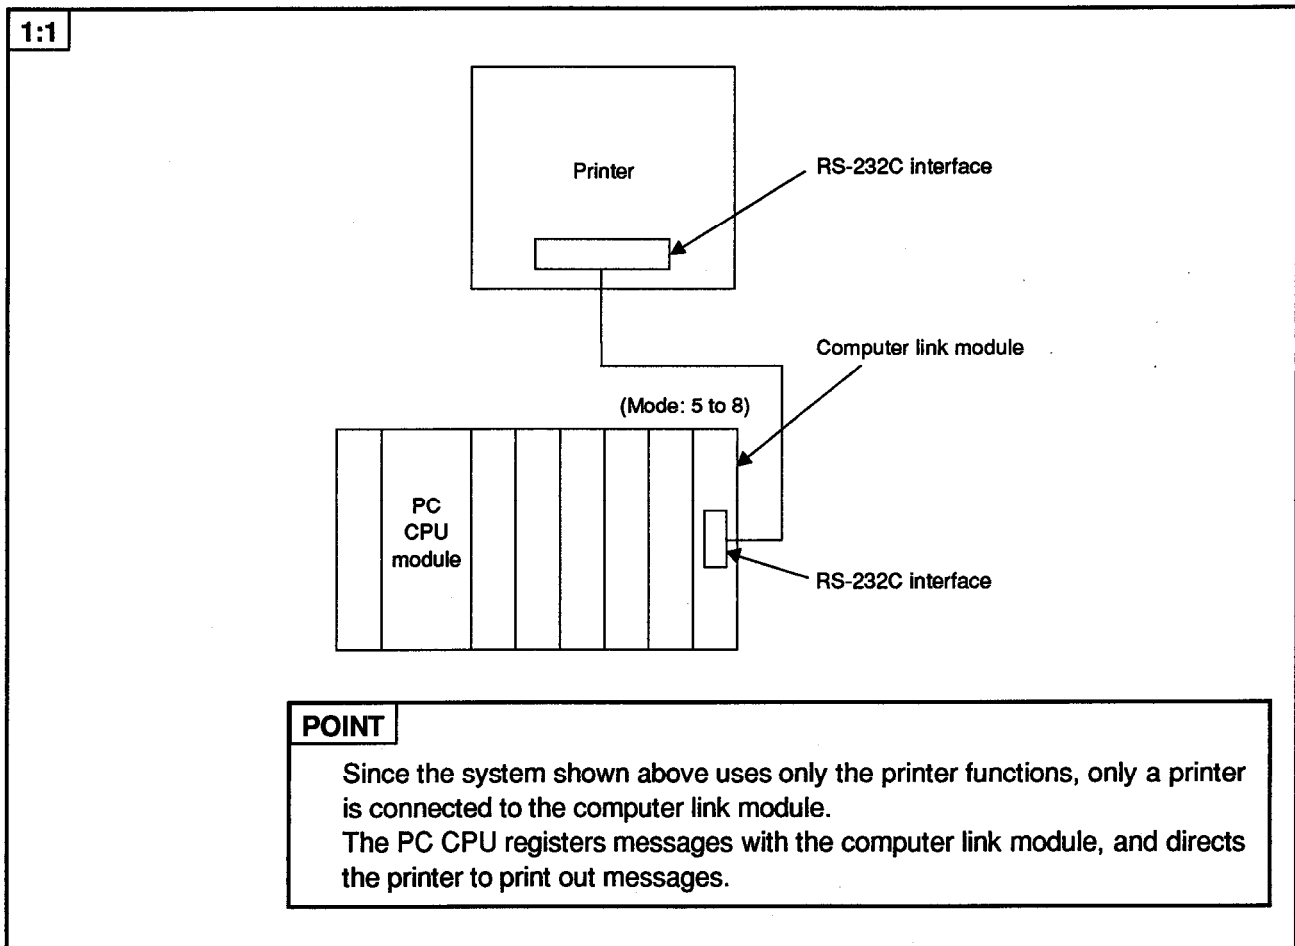

Fig. 14.1 System Configurations (I)
- (1) The system configuration for a 1:1 ratio of a printer to a PC CPU is shown in Fig. 14.1 below.